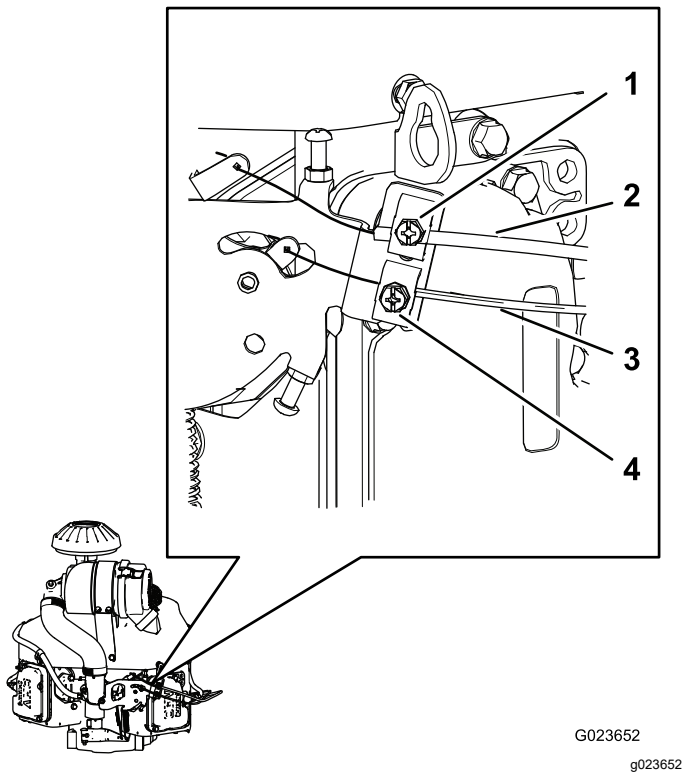

Figure 64
4. Pull up the cable housing of the throttle cable (Figure 64) until the throttle cable has almost no slack, and tighten the clamp screw.
2. Loosen the clamp screw securing the throttle-cable housing to the engine (Figure 64).
2. Loosen the clamp screw securing the choke-cable housing to the engine (Figure 64).
5. Pull up the cable housing of the choke cable (Figure 64) until the choke cable has almost no slack, and tighten the clamp screw.